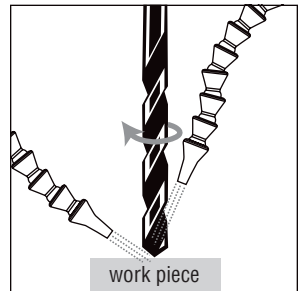

Figure 4.
1. Position the nozzle less than 1" from the cutting tool making sure it is aimed towards the cutting edge (see Fig. 4).